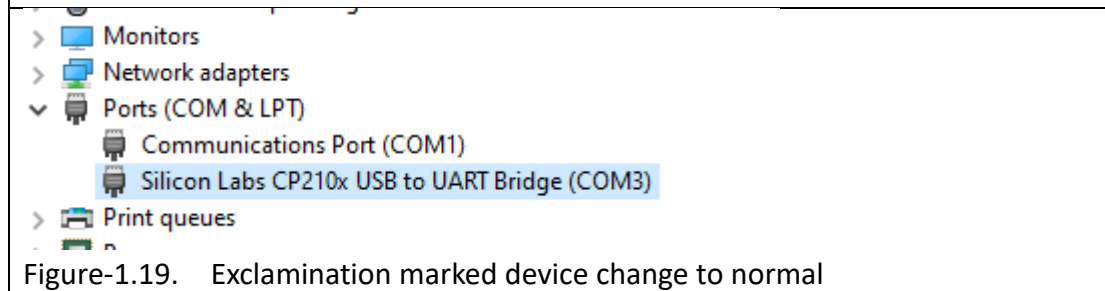

Figure-1.19. Exclamation mark device change to normal
19. Check with Device Manager, the exclamation marked device will change to normal as Figure-1.19. **Important.** Take down the COM number of this device (e.g. **COM3**).
20. After the Arduino IDE, ESP32 plug-in and USB-to-Serial driver installed. Select correct settings and test the environment. In Arduino IDE, select 'Tools' 'Port' 'COMx' (the port for the new UART bridge) (Figure-1.19 and Figure-1.20)